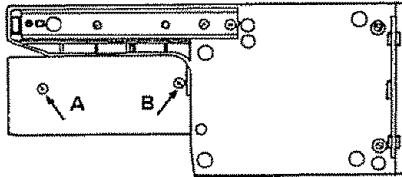

Fig. 1
2. Remove the bottom covers by loosening the two screws, A and B, under the free arm. (Fig. 1)